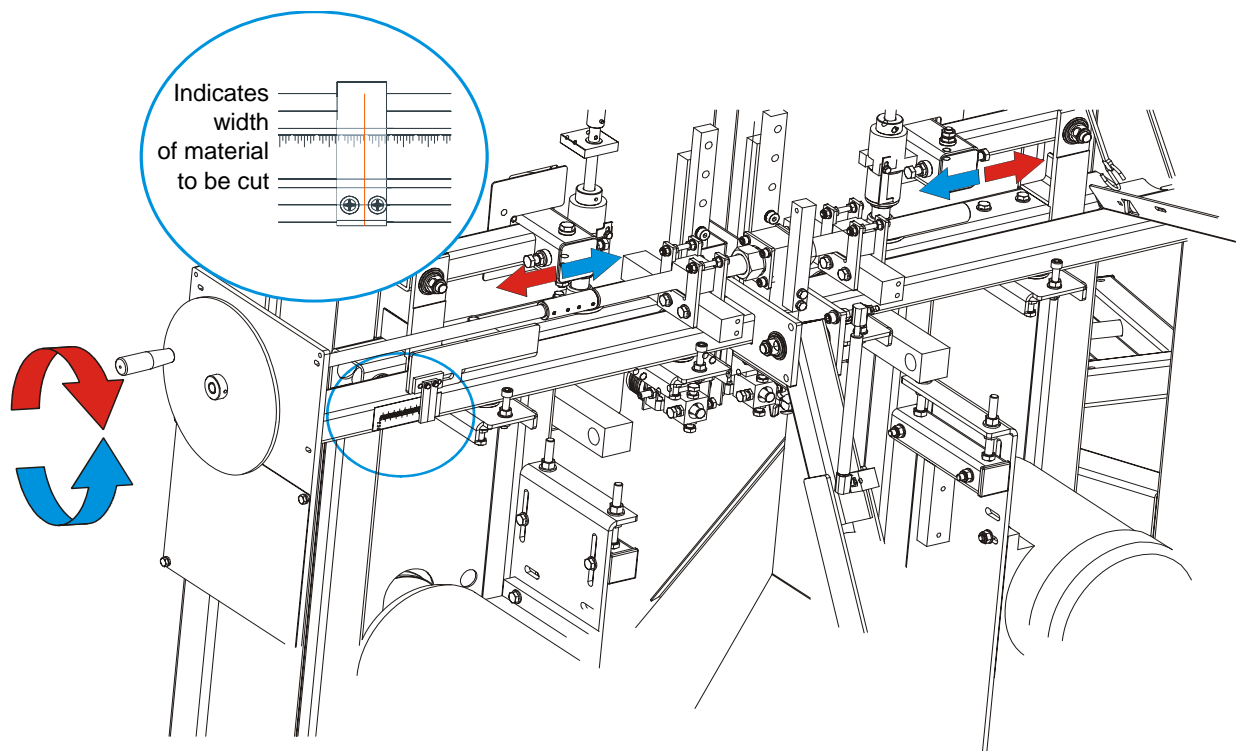

FIG. 2-9
**See Figure 2-9.** To move the saw heads in, turn the handle left. To move the saw heads out, turn the handle right.